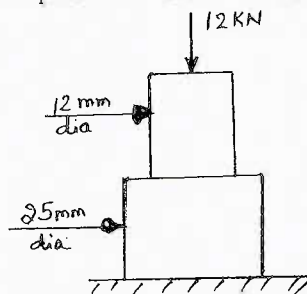

Fig.Q1(b)
- b. Find the maximum and minimum stresses produced in the stepped bar shown in Fig.Q1(b) due to an axially applied compressive load of 12 kN.